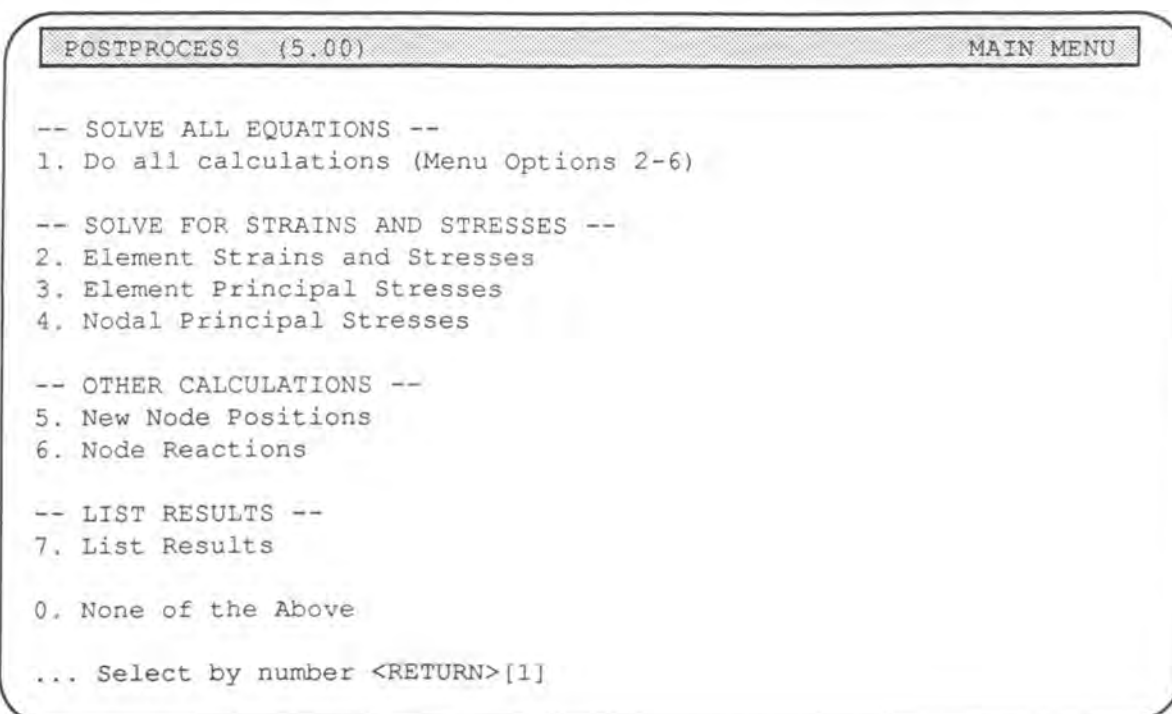

Fig 3.49 Postprocess main menu
- Press <Enter> to continue. PCE retrieves the required data files prepared by previous modules and presents the Postprocess main menu (Fig 3.49).
An experienced user would select 1 (Fig 3.49) to find the element stresses and strains, element principal stresses, and nodal principal stresses without user intervention and select option 1 below.